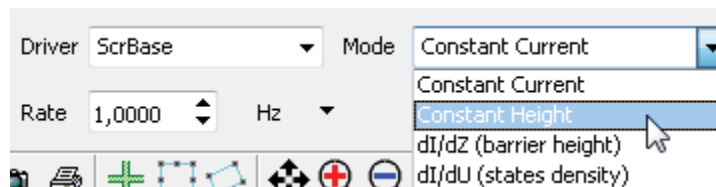

Fig. 10-20
2. Select the **Constant Height** mode in a drop-down **Mode** menu (Fig. 10-20).